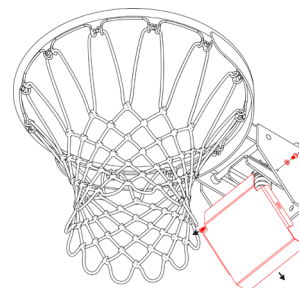

Figure 16
**STEP 10:** Remove the Rim Cover Plate from the underside of the Rim (Part I). See Figure 16.